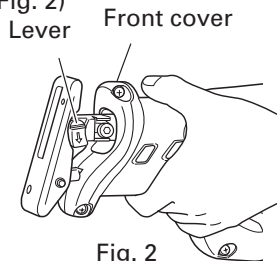

Fig. 2
(Fig. 2)
- (1) Turn on and off the switching trigger several times so that the lever can jump out of the front cover completely. Thereafter, turn off the switch and unplug the power cord. (Fig. 2)
- Do not remove the front cover (refer to Fig. 2).